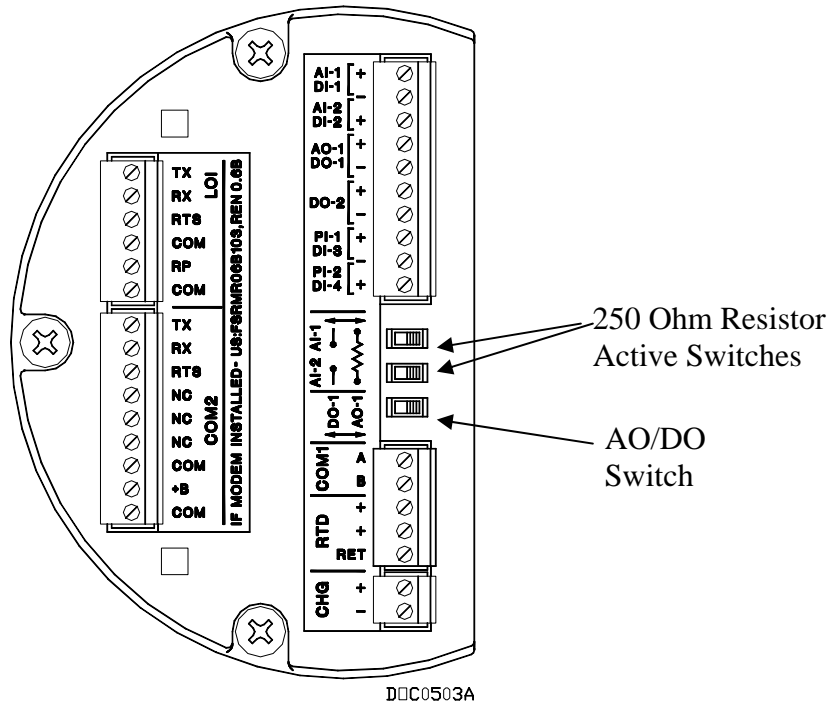

Figure 5-1. Termination Board with Optional I/O
To select the type of output for the **Analog Output/Discrete Output #1** channel, flip the AO/DO switch on the termination board to the desired position. Refer to Figure 5-1 for the switch location. Then select the desired output type on the Configure > I/O > Setup screen in ROCLINK 800 configuration software. Analog Output is the default position for this channel.
- ❖ **NOTE:** When an Analog Input/Discrete Input channel is selected to Analog Input, be sure the 250 Ohm Resistor Active switch is set to the resistor active position. Refer to Figure 5-1 for the switch location.
The terminals for connecting the Analog Input wiring are shown in Figure 5-1.
Current inputs of 4-20 mA can be used when the switch for a 250-ohm resistor is in the resistor installed position. This switch is located below the terminations. Refer to Figure 5-1.
The terminals for connecting the DI wiring are shown in Figure 5-1.
The terminals for connecting the DO wiring are shown in Figure 5-1.